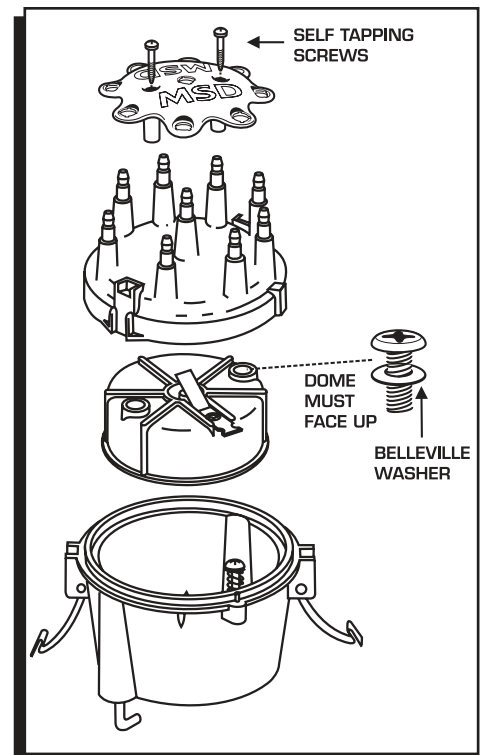

Figure 2 Installing the Cap-A-Dapt.
3. After selecting the correct rotor screws, fit the Adapter to the distributor base (Figure 2). The snap tangs will secure to the base of the distributor just like the original cap.